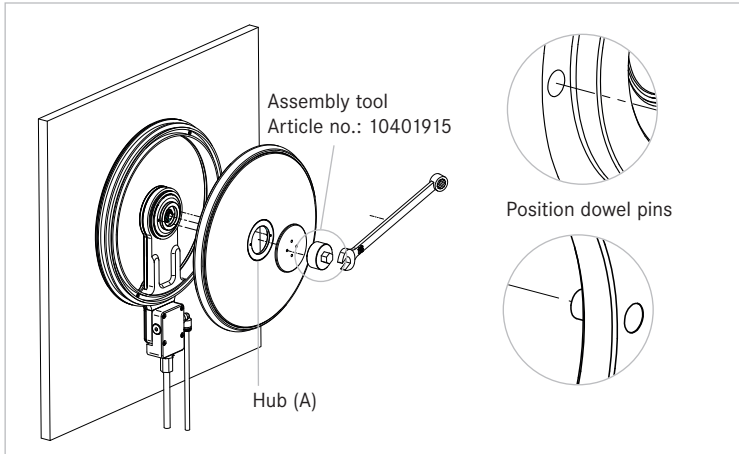

Figure 11: Mounting rotation disk
- Carefully place the screw cap on the threads of the motor to avoid damaging it. For now, tighten them only by hand (clockwise) (Figure 11).